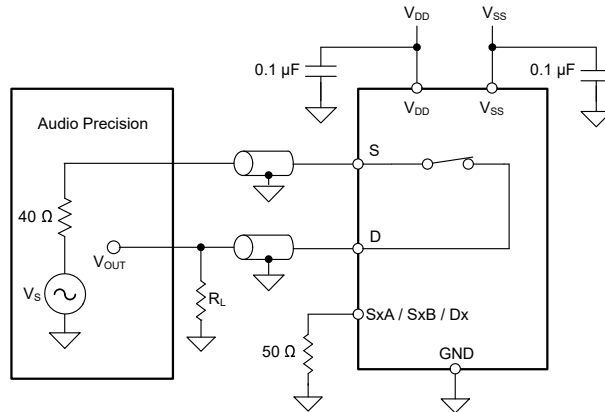

**Figure 7-12. Bandwidth Measurement Setup**
Bandwidth is defined as the range of frequencies that are attenuated by less than 3 dB when the input is applied to the source pin (Sx) of an on-channel, and the output is measured at the drain pin (D) of the device. Figure 7-12 shows the setup used to measure bandwidth.